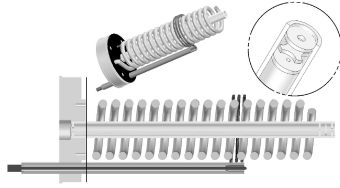

Figure 3: In-house designed and built rf plasma source for active nitrogen production. Also shown is a cut-away view and close up of the output baffle.
- vi. **N and plasma:** The rf N plasma source (fig.3) was designed by Martin Adamcyk (you can find an excellent write up about in his thesis) many years ago and it still works very well, its main feature is the ability to have it turn on as wanted (this not something that commercial set-up can do!). I've been